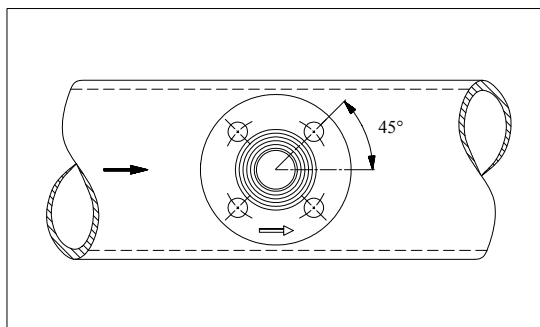

Fig. 10
3. Tack the mounting stud {1} (supplied with the Flo-Tap) onto the pipe leaving a clearance of 1-2 mm. The bolt holes of the flange must be at 45° angles to the pipe axis (see Fig. 10).